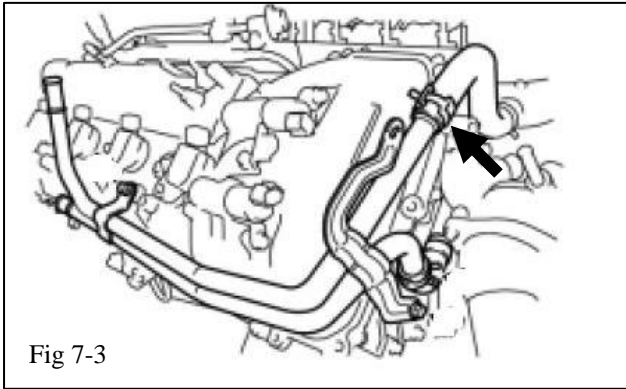

Fig 7-3
(c) Remove the water by-pass hose No. 2 from the heater tube (upper heater hose) (Fig 7-3).
- (i) Remove water by-pass hose No. 2 from the water by-pass joint. Save this hose and clamp. Keeping the same orientation, reattach water by-pass hose to the engine and secure it with the original clamp (Fig 7-3).